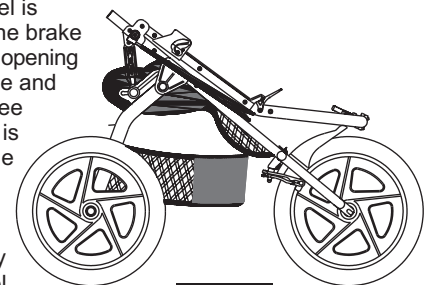
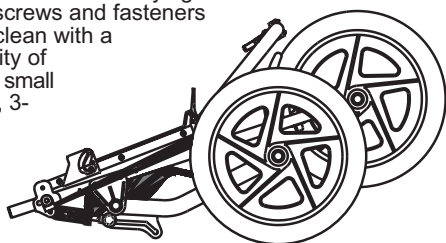
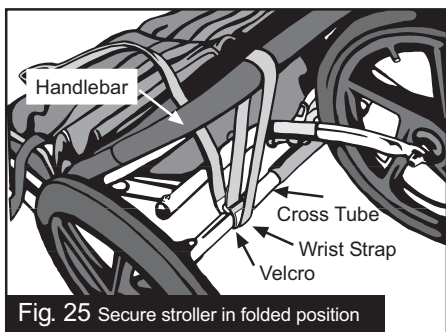

Fig. 22 Stroller with handle folded
Fig. 24
Fig. 25 Secure stroller in folded position
- 12 FOLDING:** Remove children from stroller. Remove the contents of the Low Boy cargo pouch. The shock absorbers must be in position 1 (Fig. 2) before folding. Press both the right and left handlebar release levers (Fig. 3), and fold the handlebar forward as shown in Fig. 22. Locate the frame release handle underneath the seat (Fig. 23) and pull upwards sharply. This will allow the lower frame to fold together, as shown in Fig. 24. The folded stroller can be made even more compact by removing the front and rear wheels. The front wheel is removed by opening the brake quick release (Fig. 10), opening the wheel quick release and removing the wheel (see section 6). Note that it is often easier to open the brake quick release before you fold the handlebar. The rear wheels are removed by opening the rear wheel quick release (Fig. 4), and removing the wheels. The Wrist Strap can be used to keep the stroller in the folded position for transport and storage. With the stroller folded, loop the end of the wrist strap around the handlebar and back to the rear axle and fix the Velcro surfaces together (Fig. 25).